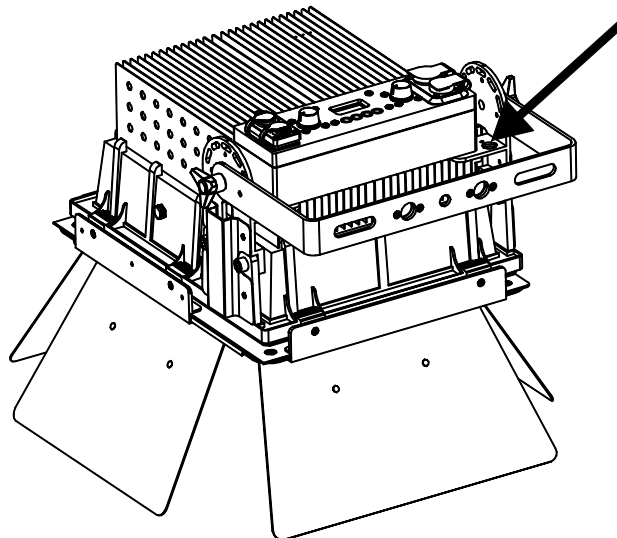

Figure 2. Safety cable attachment point
2. See Figure 2. Fasten the safety cable to the attachment hole on the back of the fixture. Check that the fixture is now secured.